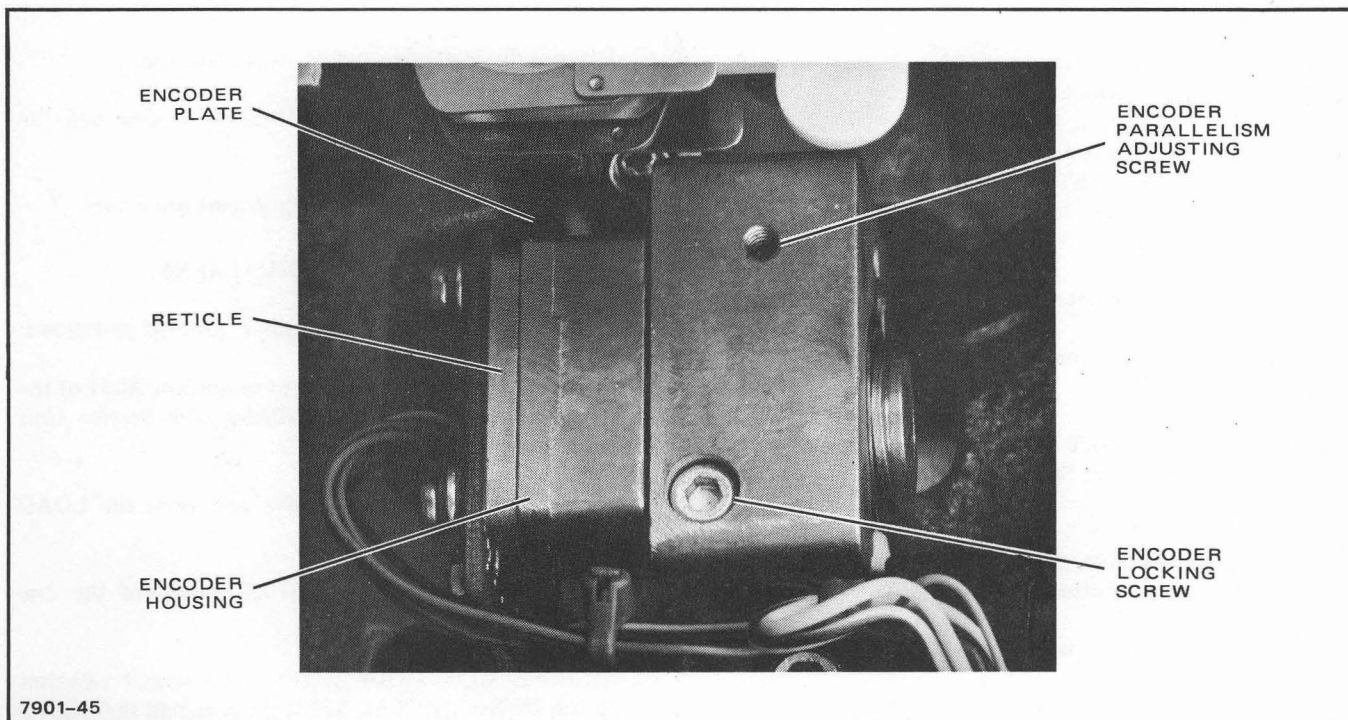

Figure 5-5. Encoder Parallelism Adjustments
- f. Loosen the encoder Allen head locking screw. (See figure 5-5.)